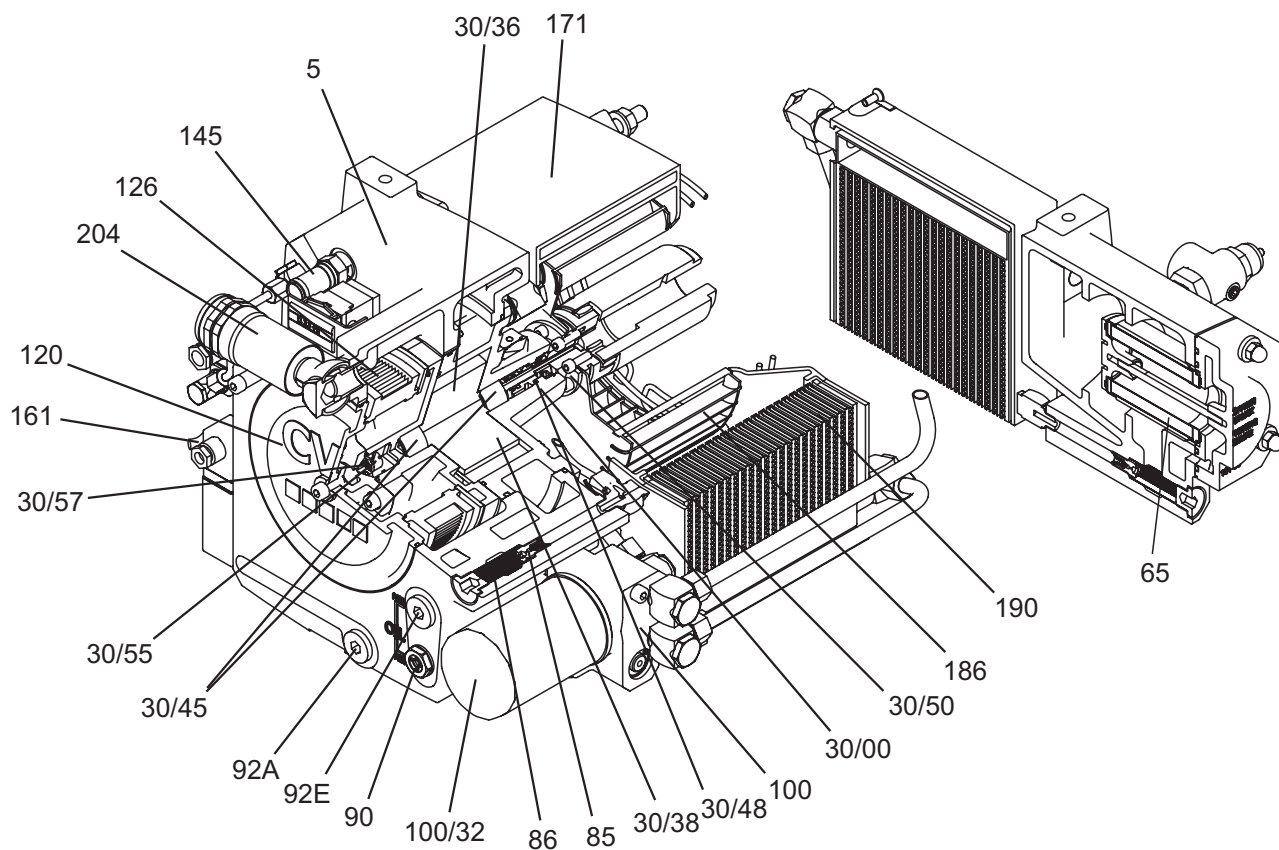

Fig. 5: Design of RPO compressor
4.3.1 Air filter (Fig. 5: 126)
4.3.2 Oil filter (Fig. 5: 100/32)
4.4 Oil cooler (Fig. 5: 190)
4.5 Thermostat (Fig. 5: 100)